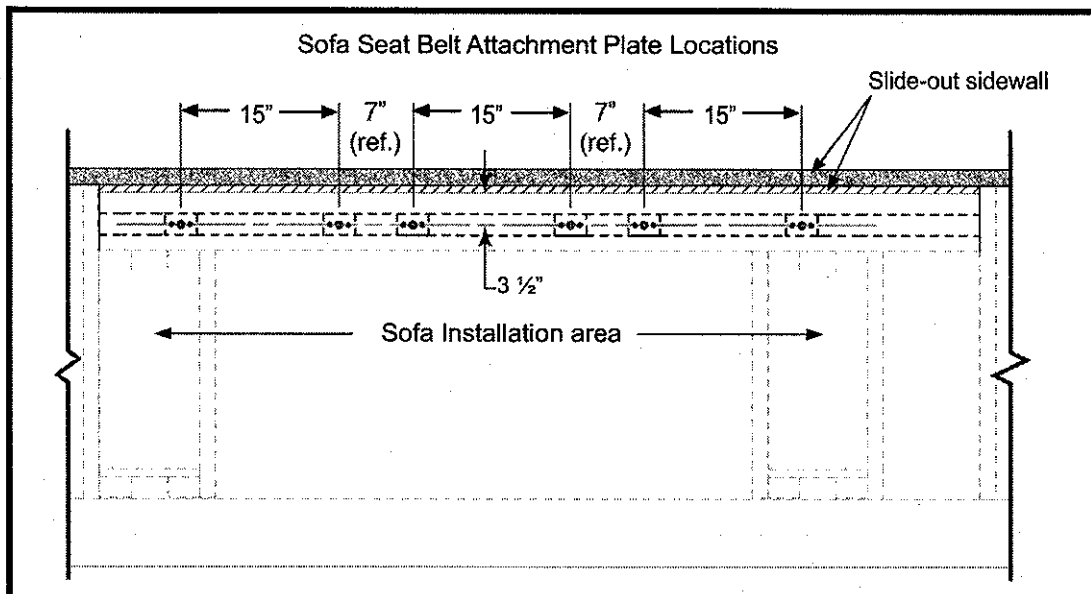
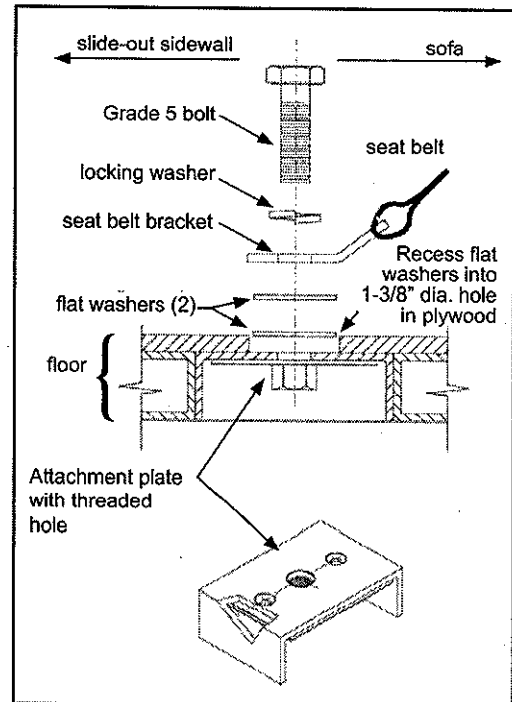

Figure 1
Figure 2
4. Using Figure 1 as a reference, locate the attachment plates (with threaded hole) needed to anchor the seat belts to the floor.
5. Route a 1-3/8" diameter hole into the plywood floor at each location identified in Figure 1, exposing the threaded holes in the attachment plates. Set depth stop and use extreme care to avoid cutting into the aluminum tube supporting the floor.
7. Mount each of the seat belts, removed in Step 3, to the floor at the locations identified in Figure 1. Secure each with a 7/16-20 NF bolt, a 7/16" lock washer, and two 7/16" flat washers (included with the Recall kit), using the stacking order shown in Figure 2. Torque each bolt to 30-35 ft-lbs.